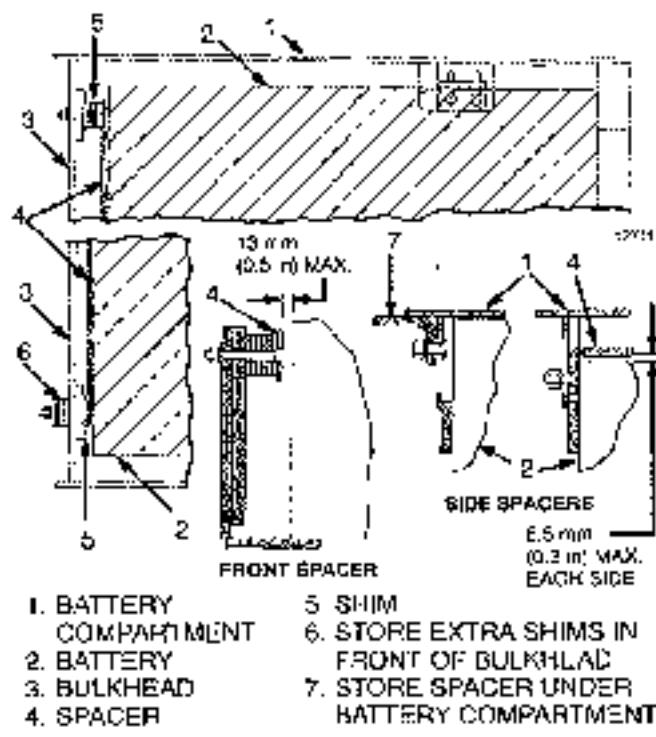

FIGURE 17. BATTERY COMPARTMENT SPACERS
HOW TO CHANGE THE BATTERY (See FIGURE 17., FIGURE 18., and FIGURE 19.)
3. Use a spreader bar and crane to lift the battery from the lift truck. See FIGURE 19. When a replacement battery is installed, make sure the battery fits the battery compartment. Use spacers to prevent the battery from moving more than a total of 13 mm (0.5 in) in any one horizontal direction. See FIGURE 17.
4. The ET trucks are equipped with adjustable spacers in the battery compartment. See FIGURE 17. Add or remove shims from under the front spacer bar to control the movement of the battery in the forward and backward directions. Install an equal number of shims at each capscrew. Install the unused shims under the nuts of the capscrews (outside battery compartment).